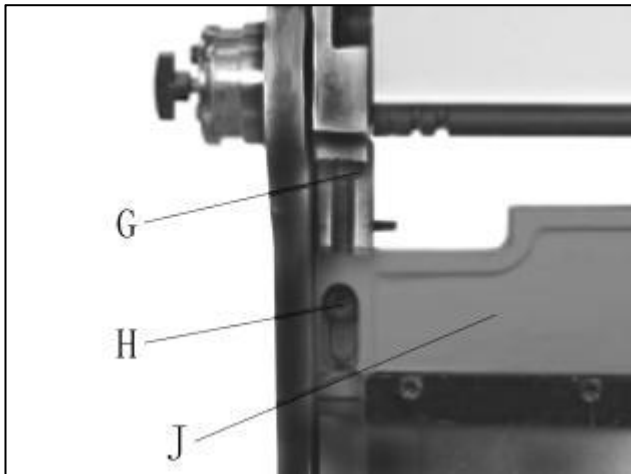

Figure 6
**To adjust brake beam (G, Figure 6) for 90° bends at bottom of stroke:**
1. Slightly loosen locking screws (H) using 6mm hex key.
2. Turn brake beam adjusting screws (G) with 16mm wrench, until test bend reflects 90° bend at both ends of brake.
3. Re-tighten screws (H).